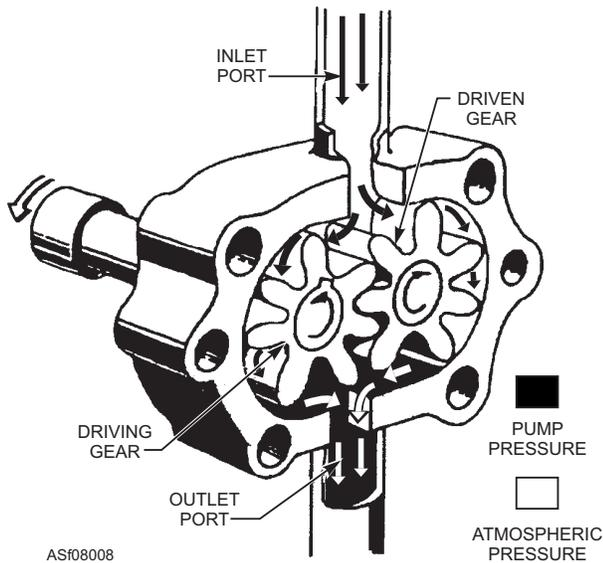

Figure 8-8.—Spur tooth pump.
**SPUR TOOTH PUMPS.**—The gear-type rotary pump shown in figure 8-8 is called a *spur tooth pump*. It consists of two meshed gears that revolve alongside each other in one housing. The driving gear is turned by a drive shaft, which engages the power source. The clearances between the gear teeth and the pump housing are very small.
The inlet port is connected to the fluid supply line, and the outlet port is connected to the pressure line. In the pump shown in figure 8-8, the drive gear rotates counterclockwise and the driven gear rotates clockwise. As the teeth pass the inlet port, fluid is trapped between the teeth and the housing, and is carried around the housing to the outlet port. As the teeth mesh again, the liquid between the teeth is displaced into the outlet port. This action produces a positive flow of liquid into the system. A shear pin or shear section is incorporated in the drive shaft to protect the power source or reduction gears if the pump fails because of excessive load or binding of parts.